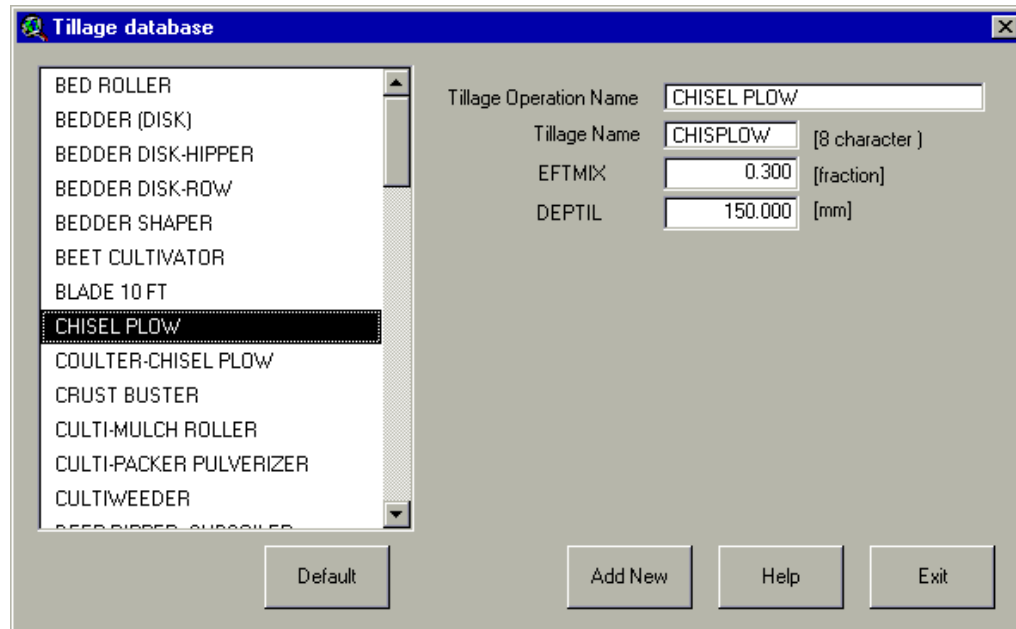

Figure 14.62
- The data for the tillage operation will be displayed (Figure 14.62). A complete description of the parameters is provided in the *Soil and Water Assessment Tool User's Manual, Version 2000*, Chapter 15.